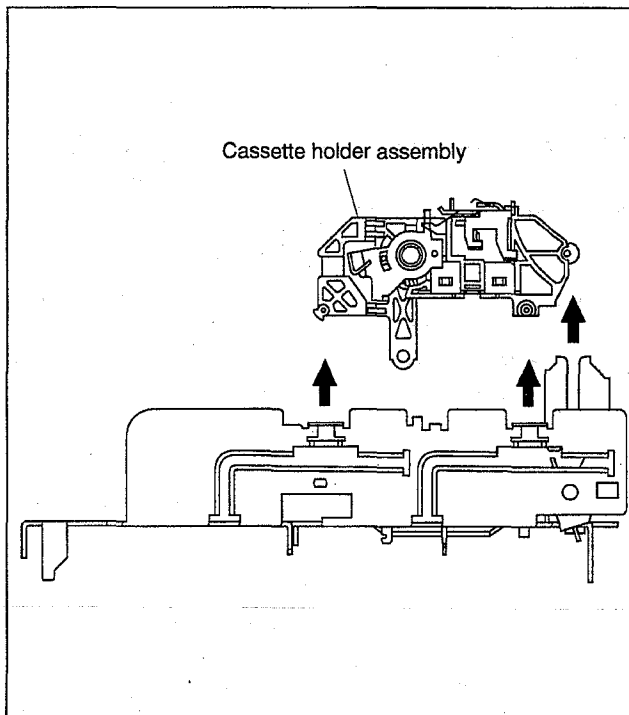
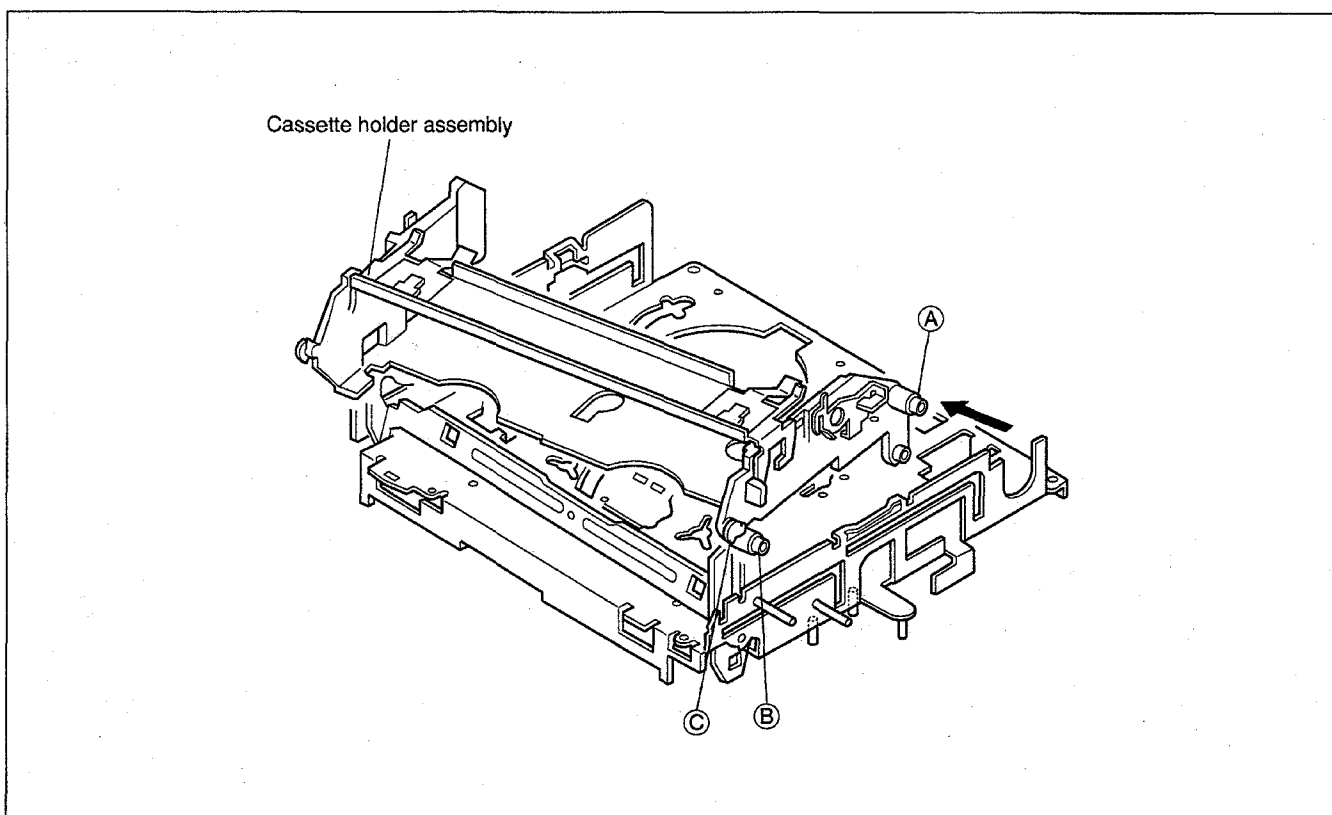

Fig. 2-2-5
Fig. 2-2-6
- (5) While holding the left side of the cassette holder, lift the cassette holder assembly so that the three legs on the left side are all released. Then pull the legs (A) and (B) on the right side out of the rail and also pull up the leg (C). (See Fig.2-2-5, Fig.2-2-6)